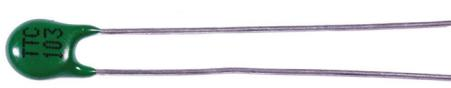
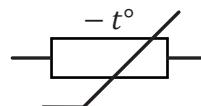

Figure 8.7a An NTC thermistor
Figure 8.7b Symbol of an NTC thermistor
- Negative temperature coefficient (NTC) thermistors** have resistances that decrease with temperature. Figure 8.7a and Figure 8.7b show a photo of an NTC thermistor and its symbol, respectively.